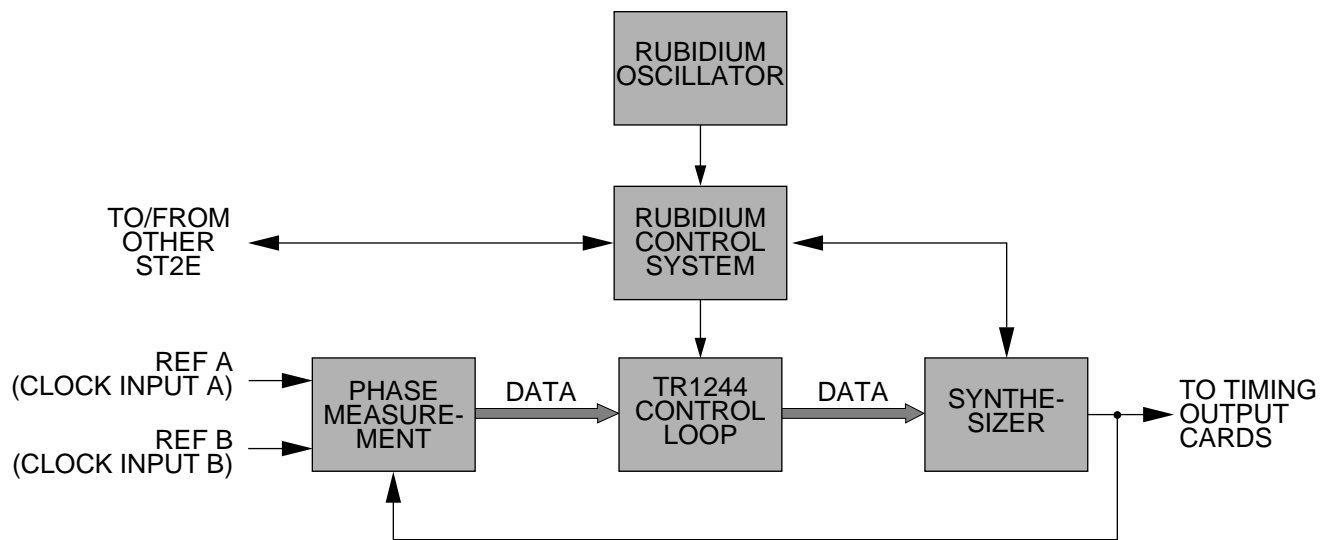

Figure 11. ST2E Card Block Diagram
4.34 The ST2 clock card (Figure 11) provides a stabilized reference to drive the TOxA cards. ST2 cards are normally configured to function as a pair. ST2 A receives its reference from CI A (or ACIA) and ST2 B receives its reference from CI B (or ACI B).